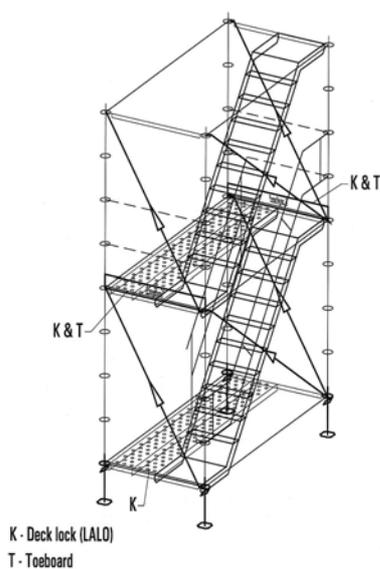

FIGURE 5.
12. Lift 2nd stair unit into position and secure claws into U-transoms at top and bottom. (Figure 5.)